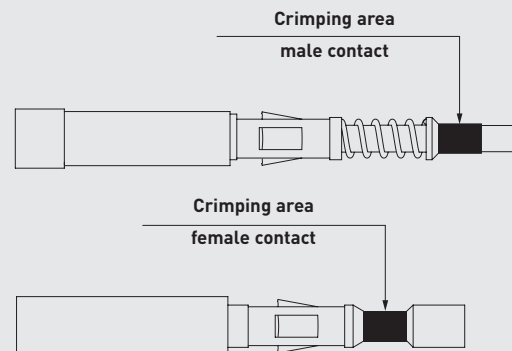

Fig. 4 - Crimping area
- The **CLPZ R** crimping tool data sheet explains how the crimping tool works and how to adjust the crimping depth and locator to crimp the contacts as shown in Fig. 4.